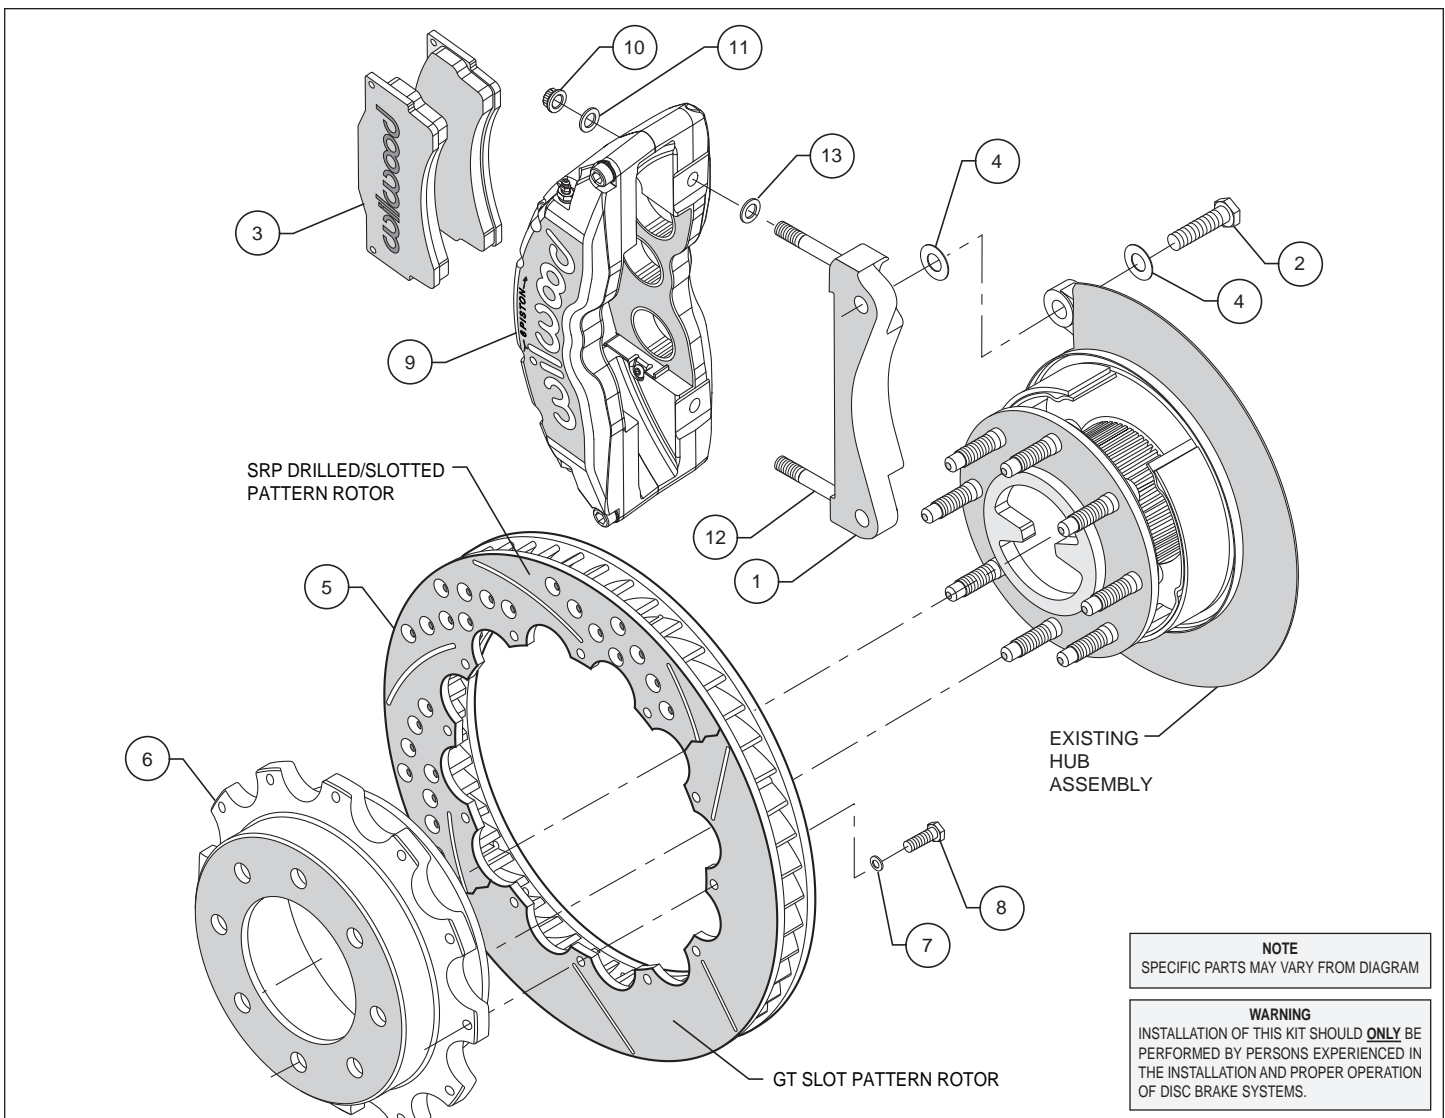
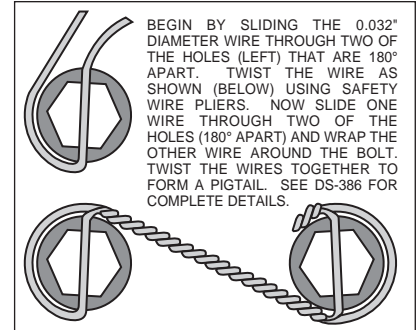

Figure 1. Typical Installation Configuration
Figure 3. Safety Wire Diagram
- The caliper mount bracket assembly (1) should be installed first with clean, dry threads on the mounting bolts (2). Install the bracket by sliding bolt (2) through shim washer (3) from the rear side of the hub through the OEM caliper mounting bracket ears, then through an additional shim washer (4) and into the bracket (1). The bracket must tighten squarely against the outboard side of the caliper mount bosses on the upright. Inspect for interference from casting irregularities, machining ridges, burrs, etc. Use one shim (4) between the bracket and upright during initial trial fitting. Later, after the caliper, pad, and rotor alignment have been checked, and any necessary shims have been put in place, the mounting bolt threads (2) should be coated with red *Loctite*® 271 and torqued to 95 ft-lbs.
- Attach the rotor (5) to the hat (6) using bolts (8) and washers (7) as shown in Figure 1. Using an alternating sequence, remove bolts one at a time, apply red *Loctite*® 271 to the threads, and torque to 198 **in-lbs**. Safety wire the bolts using standard 0.032 inch diameter stainless steel safety wire as shown in Figure 3. Please refer to Wilwood's data sheet DS-386 (available at [www.wilwood.com/Pdf/DataSheets/ds386.pdf](http://www.wilwood.com/Pdf/DataSheets/ds386.pdf)) for complete safety wire installation instructions.
- Lubricate caliper mounting studs and nuts with lightweight oil. Install one shim (13) over each stud (12) on the radial mount bracket (1). Slide the caliper (9) in place over the studs and rotor and install the washers (11) [up to 4 may be required on each side to keep the lock nut from bottoming out on the stud], and lock nut (10) to hold the caliper in place. The caliper bleed screws should be pointing up. Snug the lock nuts (10) and check that the rotor (5) is centered in the caliper (9). Add or subtract .029" shims (4) as necessary between the caliper mount bracket and the caliper mount bosses on the upright assembly to center the caliper.
- Remove the two caliper center bridge pad retainer bolts, nuts, and tubes from the caliper. Slide the brake pads (3) into place. They should install easily without interference. Check that the outside radius of the brake pad is aligned with the outside diameter radius of the rotor face. Add or subtract shims (13) between the caliper and mount bracket to gain the proper alignment. Reinstall the two center bridge pad retainer tubes, bolts, and lock nuts. The locknut should be snug without play in the bolt or tube. Be cautious not to over tighten.
- Once all clearances have been checked, remove the wheel, caliper and rotor from the axle flange. Secure the caliper mounting bracket (1) to the axle flange body with bolts (2) while coating the threads with red *Loctite*® 271. Torque the bolts to 75 ft-lbs. Reinstall the rotor and again use several lug nuts to hold it in place. Reinstall the caliper, torque the caliper nuts (10) to 47 ft-lbs.